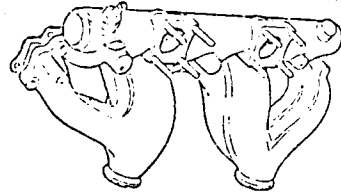

Fig B4.65
- (8) Refer to Fig B4.65. Disconnect the exhaust down pipes (1) from the manifold.
- (9) Disconnect the top radiator hose, the heater hoses and the bypass hose.
- (10) Undo the bolt holding the clamp for the heater hoses on the inlet manifold and lay the hoses to one side.